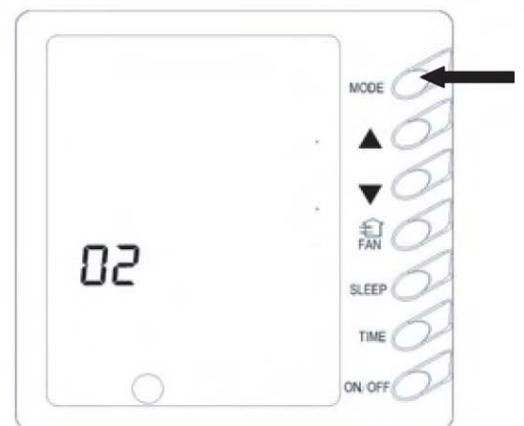

Fig 10
10) MEMORY function setup (Fig. 10)